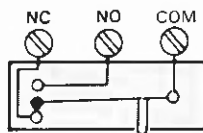

Figure 11
C. Wire directly to the switch (single switch Figure 11) or to the terminal block (dual switch — Figure 12).